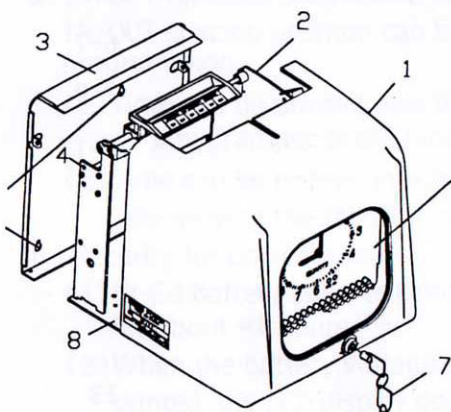

Figure 1A
— To close the case, push it to the end after adjusting its bottom end to LH and RH side guides on the bottom plate of the main body. Press it in until it reaches the back plate and lock it in place by turning the key counter-clockwise. (Figures 1A and 1B)
- When installing on the wall, remove two (M4) screws (4) the back plate (3), (Figures 1A and 1B) and secure the back plate to the wall with screws.